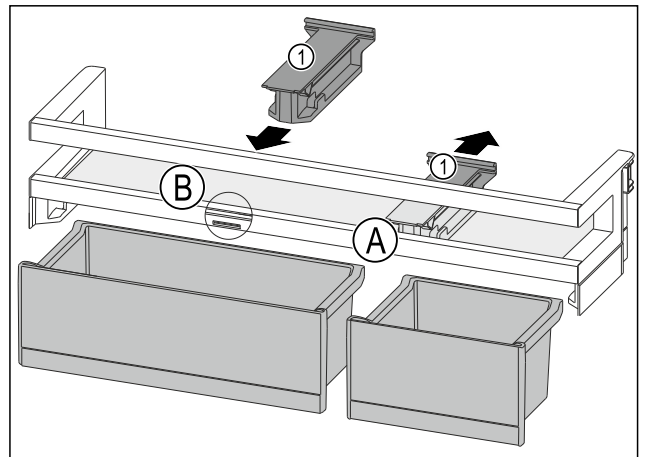

Fig. 158
- ▶ Take off the holding part Fig. 158 (1) in position Fig. 158 (A) backwards.
- ▶ Insert the holding part Fig. 158 (1) in position Fig. 158 (B).